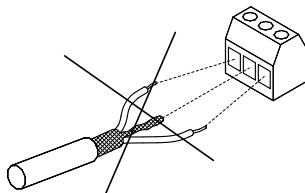

Fig. 18 Do not twist the screen ends
- Avoid terminating the screen by twisting the ends. See fig.18 18. Use cable clamps or EMC screwed cable entries instead.